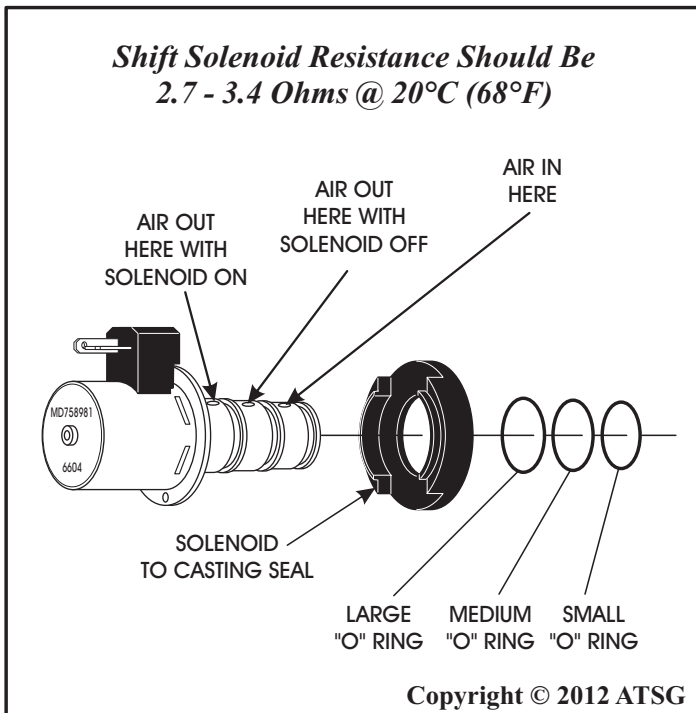

Figure 215
16. All solenoids can be air checked using the procedure shown in Figure 215.
17. Install new solenoid to solenoid body casting seal, as shown in Figure 215, on all solenoids.
18. Install new "O" rings onto the solenoids, as shown in Figure 215, and lubricate with small amount of Trans-Jel®.